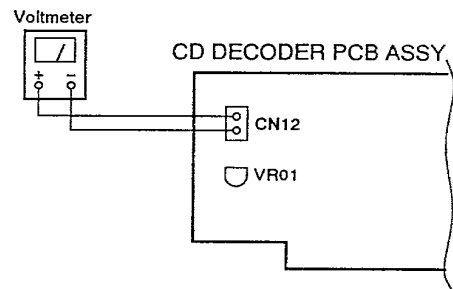

Fig. 5
- (1) Stop the test disc after the play.
- (2) Connect the Voltmeter to CN12 on the CD DECODER PCB ASSY as shown in Fig. 5.
- (3) Adjust VR01 so that the voltage becomes $0mV \pm 20mV$.